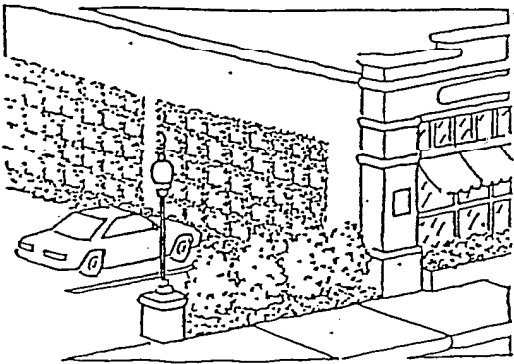

Figure 40
- ☐ Where space for tree planting is not available, add trellises of wood or metal to create a visual texture on the wall surface. Plant with flowering vines (Figure 40).